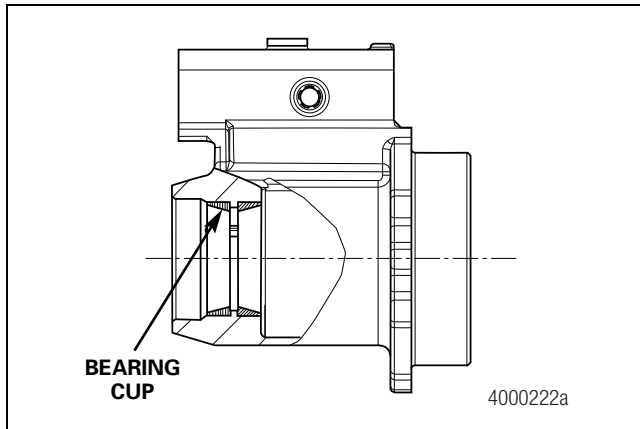

Figure 7.8
- A. Install the bearing cups into the PTO bearing cage housing. This is an interference fit. Freeze the bearing to -65°F (-54°C) and position the two cups into the housing bores. Figure 7.8.